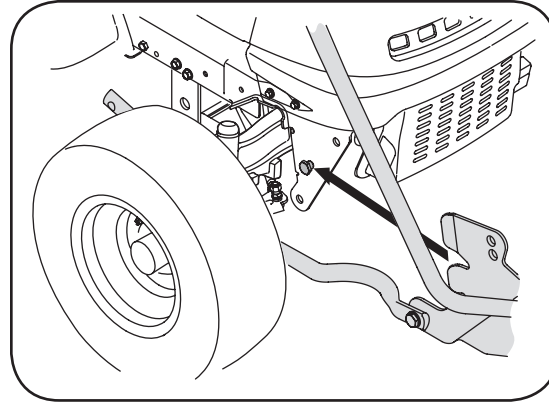

Figure 6-7
3. With the help of an assistant, lift up the auger housing and move it so that it rests over the shoulder bolts found on tractor See Figure 6-7.